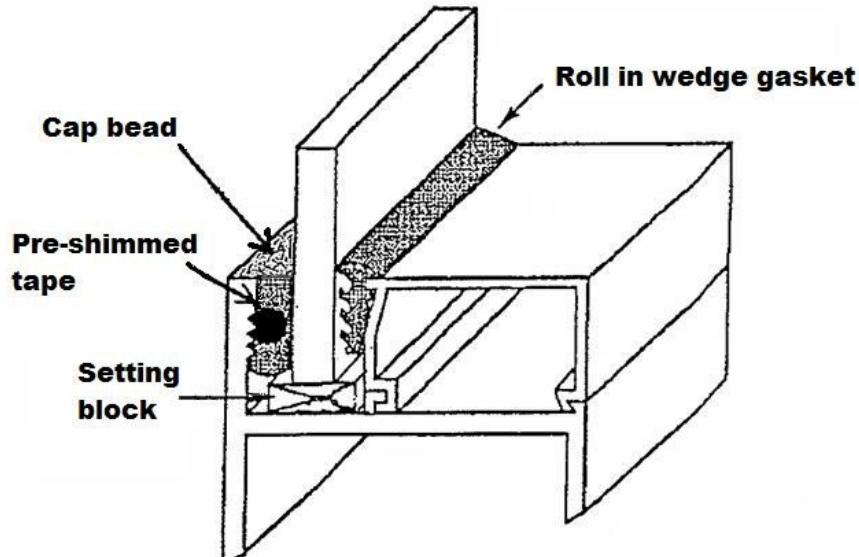

figure 2
**Cap Bead** – A bevelled surface designed to shed water away from the joint or glass. The cap bead becomes the primary line of defence against water and air penetration (see Figure 2).